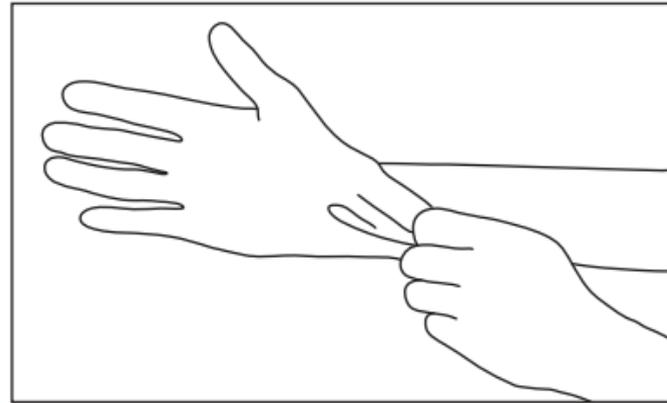

Fig. 5
- 1) Always wear protective gloves, a mask, and protective goggles for safety purposes and to minimize the risk of infection. (Fig. 5)